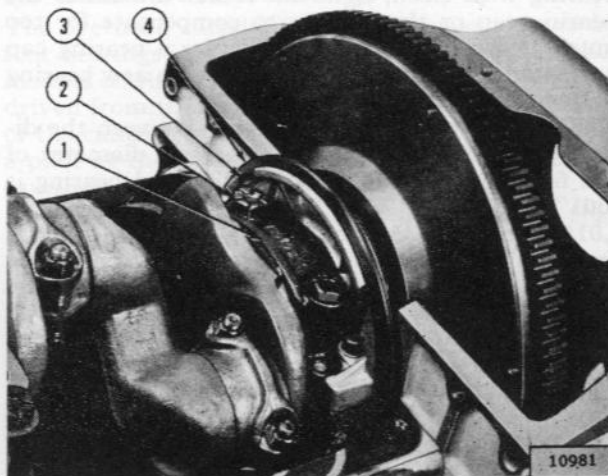

FIG. 100—REAR MAIN BEARING INSTALLATION
d. After the bearing has been correctly fitted, remove the shim stock, wipe the bearing and journal carefully, and apply clean engine oil to the surfaces. Replace the cap and tighten the bolts first one, then the other, a little at a time, to the prescribed torque. Fig. 100 shows the rear main bearing installed. The crankshaft should now turn freely without drag.
The end play of the crankshaft is controlled by flanges on the rear main bearing and the machined surface on the number 8 cheek and on the inner side of the oil seal flange of the crankshaft (Fig. 100). Allowable end play is .003" to .007" [.0762 mm. a .1978 mm.]. If the crankshaft end play is greater than .007", the bearing flange is probably worn, which will necessitate bearing replacement.